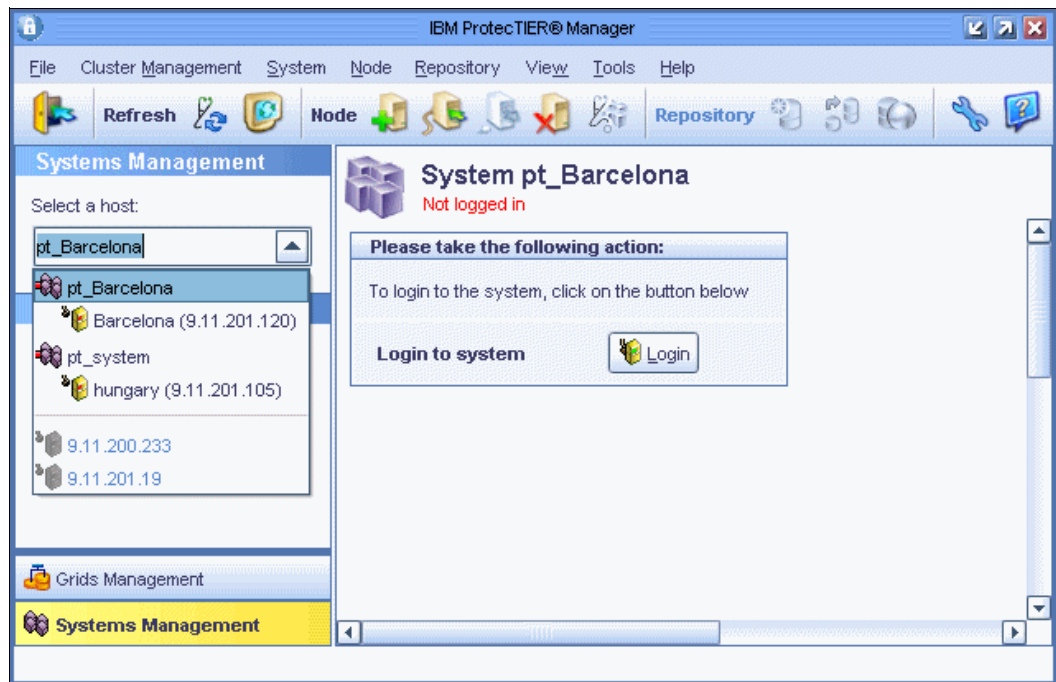

Figure 5-22 ProtecTIER Manager Start window
1. On the navigation pane, select a system that you want to log in to or select a node on the nodes pane of the system in which you want to log in (Figure 5-22).